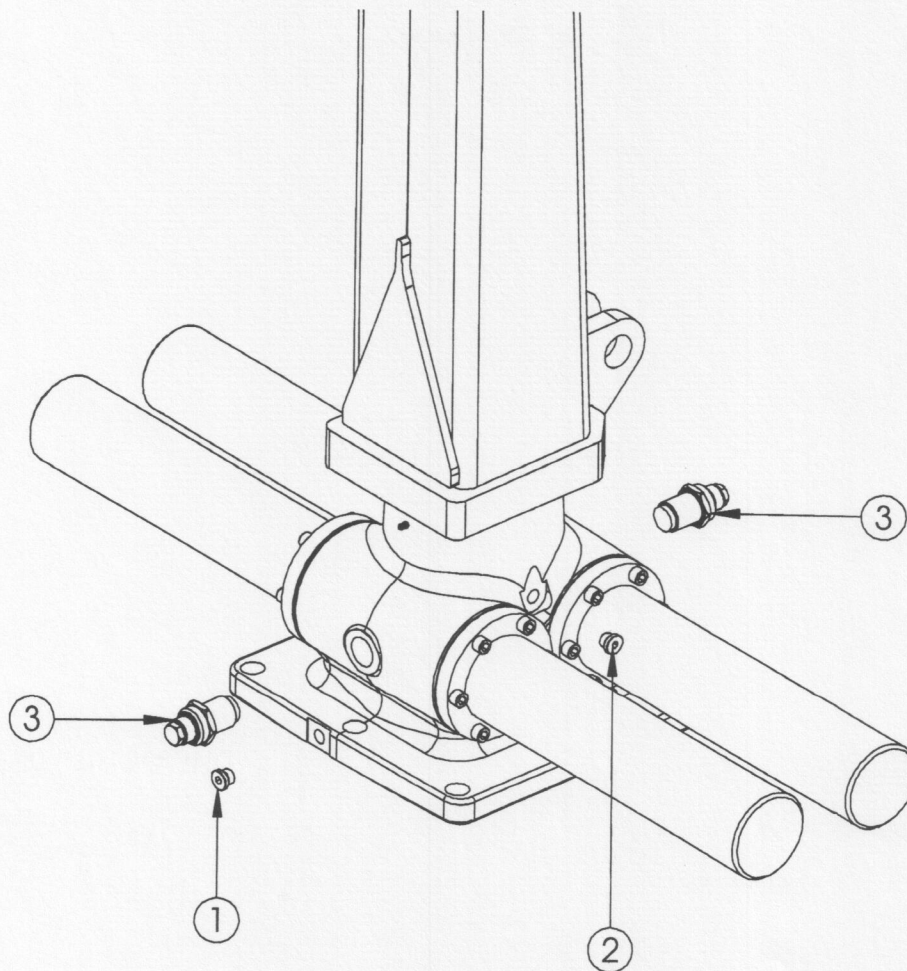

Figure 8. *Adjusting racks of slewing device and oli change*
When using forest crane in combination with forest trailer, use trailer parking leg (fig.8) and make shure, that crane support legs are not leaning to the ground.
- Release the locking nut widely enough, so it will not obstruct tightening (pos. 3 fig. 8).
- Tighten the bolt (pos. 3, fig. 8) against the gear rack with 10 Nm (1 kg*m).
- Tighten the locking nut (pos. 3 fig. 8).
- Ensure that the slewing device is in horizontal position, as shown on fig. 8.
- Release and remove lower bolt from oil change port (pos. 1, fig. 8).
- Release and remove oil change bolt from top of slewing housing (pos. 2, fig. 8).
- Remount lower bolt to oil change port (pos. 1, fig. 8).
- Remount and tighten top bolt to oil change port (pos. 2, fig. 8).